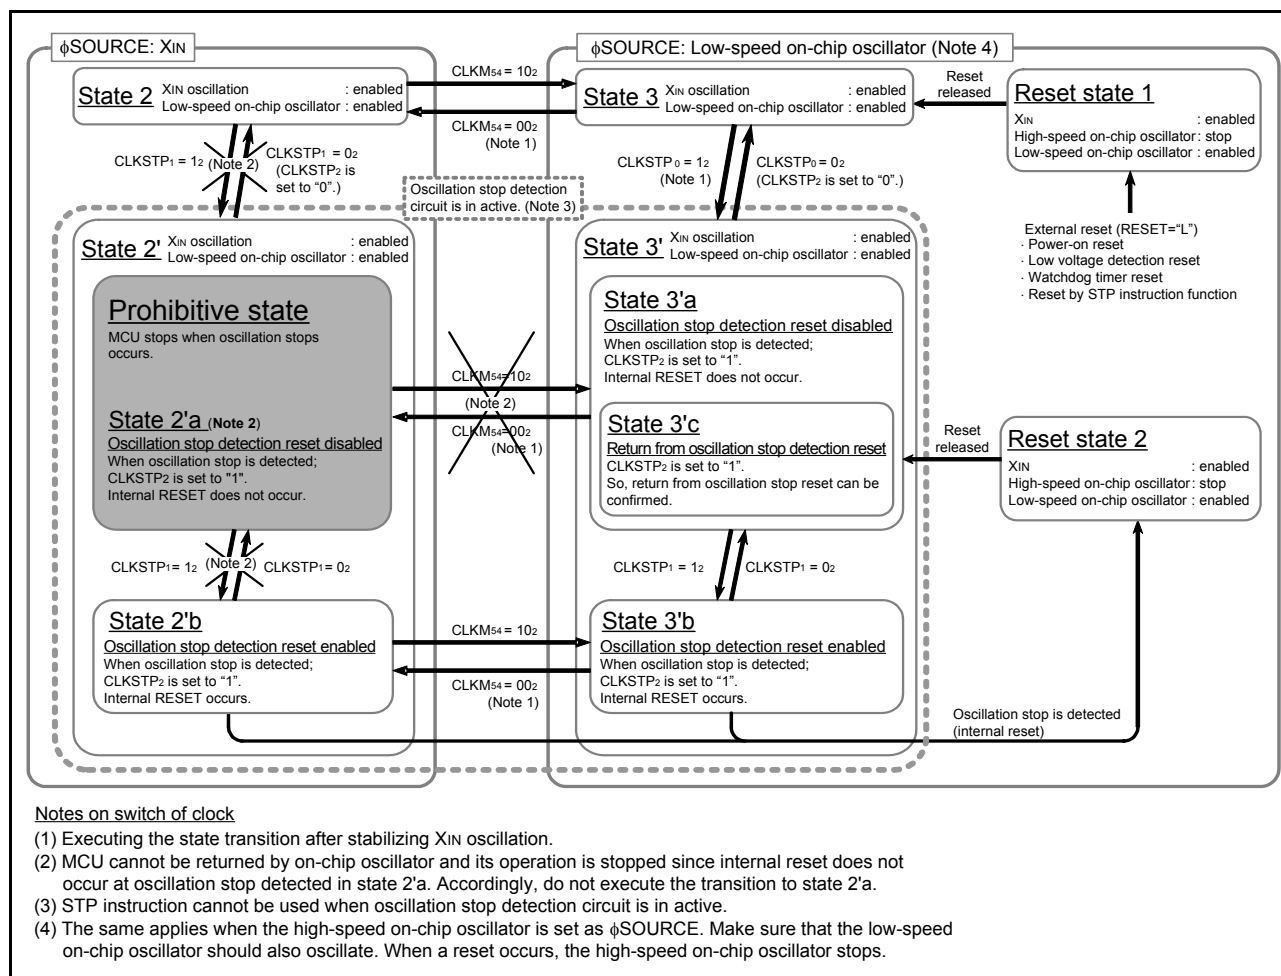

Fig 65. State transition of oscillation stop detection circuit
- (1) Do not execute the transition to "state 2'a" shown in Figure 65 because in this "state 2'a", MCU is stopped without reset even when XIN oscillation is stopped.
- (2) XIN oscillation stop detection function active bit is not cleared by the oscillation stop detection reset. Accordingly, the oscillation stop detection circuit is in active when system is released from internal reset cause of oscillation stop detection.
- (3) Oscillation stop detection status bit is initialized by the following operation.
- (4) The oscillation stop detection circuit is not included in the emulator MCU "M37549RLSS".